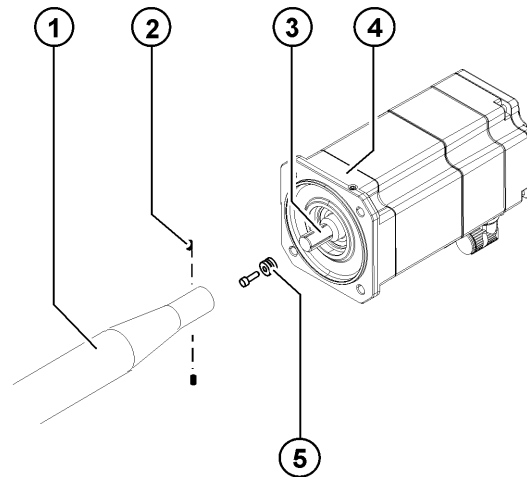

Fig. 11-15: Motor with connecting shaft
1. Remove all protective coatings and oil from the new motor A5 (>>> Fig. 11-15).